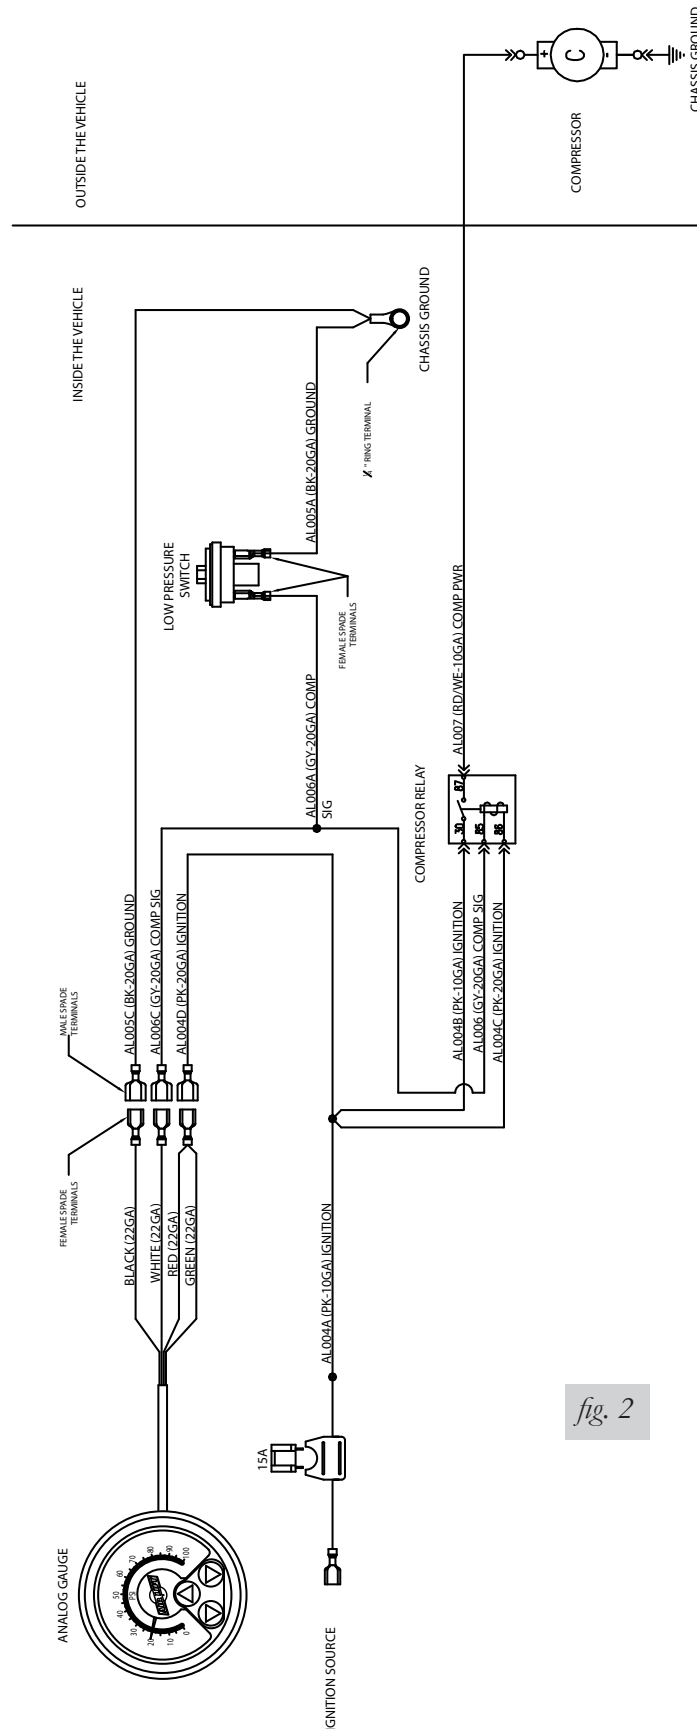

fig. 2
- b. Connect the low-pressure switch assemblies as shown in figures 2 and 9.